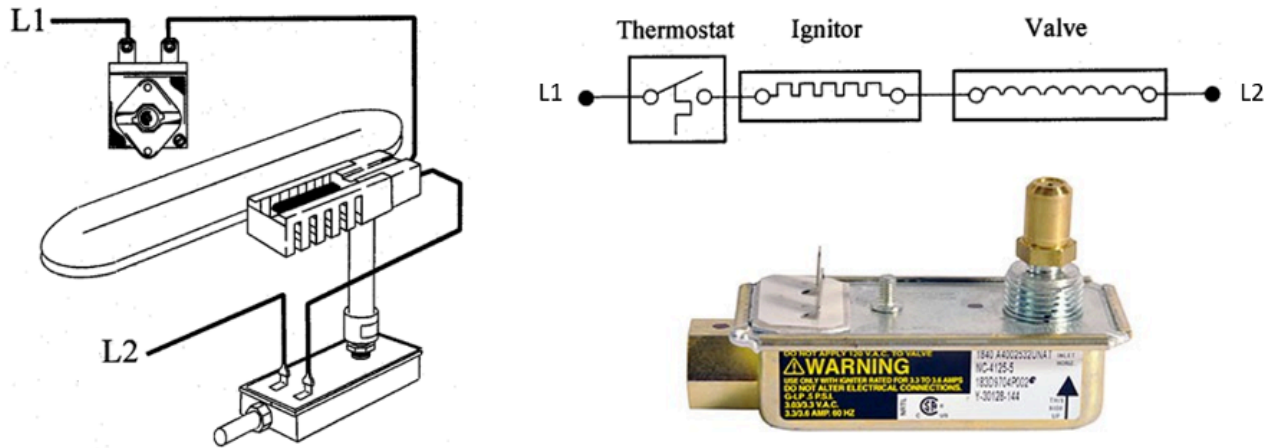

Figure 87. Range oven and broiler gas valve
Range oven gas valves are a hybrid of both electric and non electric operating components (Figure 87). The wiring of diagram of the 120VAC gas valve control circuit shows that the thermostat energizes both the hot surface Ignitor and the thermal bi-metal gas valve. The thermostat is a hydraulic bellows snap switch with a capillary tube leading to the sensing bulb located within the oven. Because the thermostat, HSI and gas valve are wired in series, meaning electricity must pass through the glow bar and then to the valve. The HSI blocks current to the gas valve through electrical resistance that declines as the igniter's temperature rises. When the igniter reaches yellow heat, sufficient to ignite the gas, it allows passage of enough electricity to open the gas valve.
- Figure 87. “Range oven and broiler gas valve”.